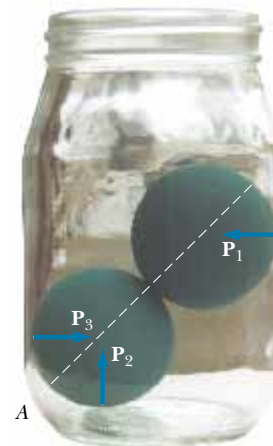

Figure P12.64
64. Two racquetballs are placed in a glass jar, as shown in Figure P12.64. Their centers and the point A lie on a straight line. (a) Assuming that the walls are frictionless, determine P_1 , P_2 , and P_3 . (b) Determine the magnitude of the force exerted on the right ball by the left ball. Assume each ball has a mass of 170 g.